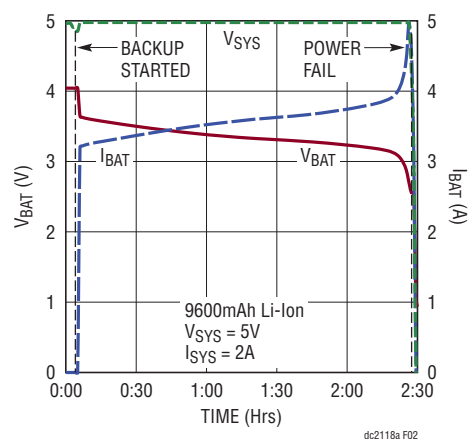

Figure 2. Typical Battery Discharge Cycle
Demonstration circuit 2118A is easy to set up to evaluate the performance of LTC4040. Refer to Figure 2 for proper measurement equipment setup and follow the procedure below.
11. Total backup runtime is based on battery capacity, circuit efficiency, and system load. Figure 2 shows an example discharge curve with constant current system load.